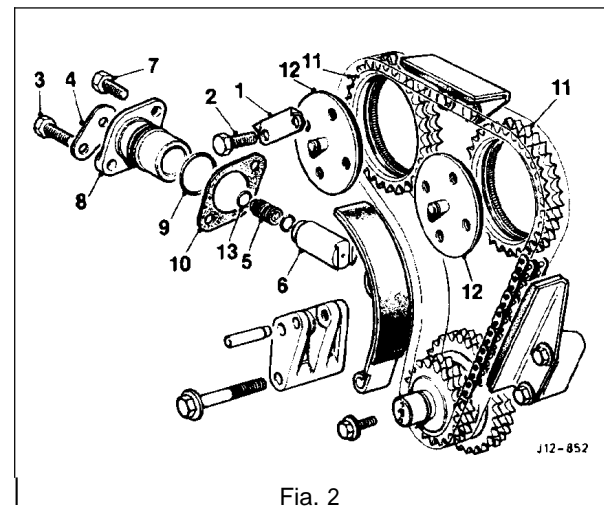

Fig. 2
- Tighten the clamp bolt (3 Fig. 2).